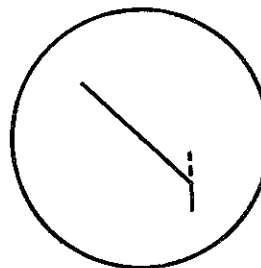
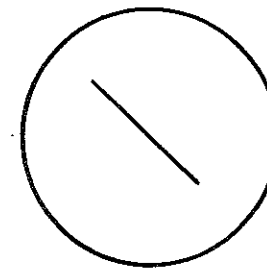

Fig. 19A
Fig. 19B
3. If the trimmer adjustment, on the vertical input switch is incorrect, the line will have a tail on it as shown in figure 19A. Adjust the trimmer, for a straight line, at 45 degrees as shown in figure 19B.